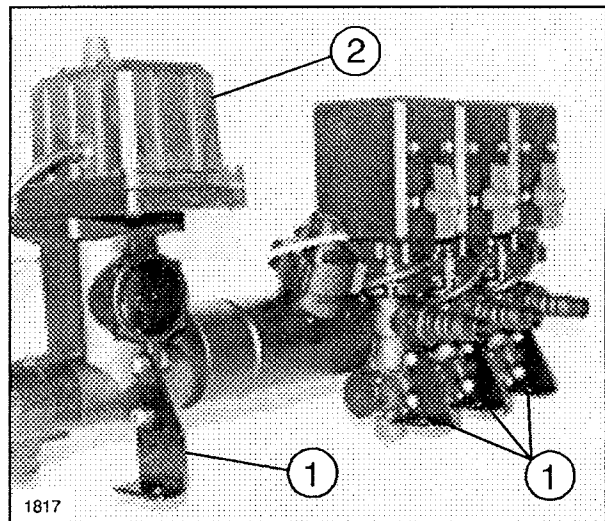
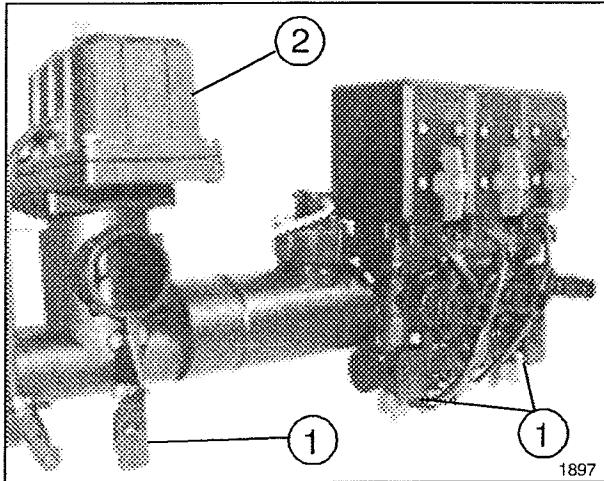

FIG. 3
FIG. 3A
5. Remove and discard the four (4) existing Mounting Brackets from the Control Valve Assembly. Using existing hardware, attach the three (3) Mounting Brackets (provided in Parts Bag) to the Control Valve Assembly. (See FIG. 3 above and FIG. 3A, page 13)